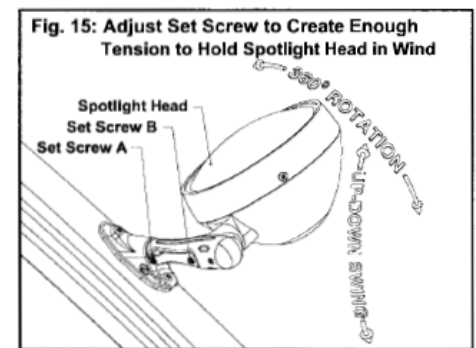
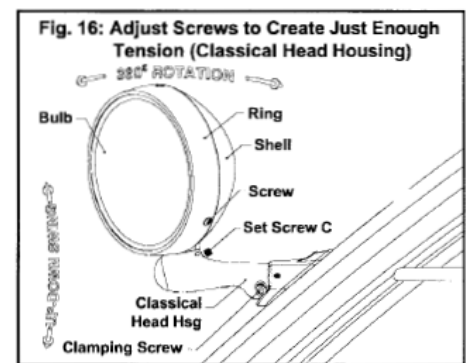

Fig. 2
Fig. 3
- ii) Reposition the outer tube. Loosen the set screw on the bracket and set screw A (Fig. 2) on the head housing. Remove spotlight assembly and outer tube. Seat outer tube into head housing. Then reinstall and test spotlight. If light does not work, replace the handle assembly with a new one.
- i) Check the bulb. Open the spotlight head (Fig. 3), disconnect bulb wires, and apply 12 V DC power to check the bulb. If it works, replace the spotlight shaft assembly with a new one. If it doesn't, go to the next step.
- A) Adjust set screw B (Fig. 2) and make sure it is not over-tightened. If it is still hard to turn after proper adjustment, go to step B below.
- A) Make proper adjustment to set screw A (Fig. 2). If the movement still isn't smooth, go to step B below.
If your spotlight has the classical head housing (Fig. 3), the clamping screw and set screw C have the same functions as set screw A and set screw B (Fig. 2). They can be used to adjust the tension for up-down movement and 360° rotation, respectively.